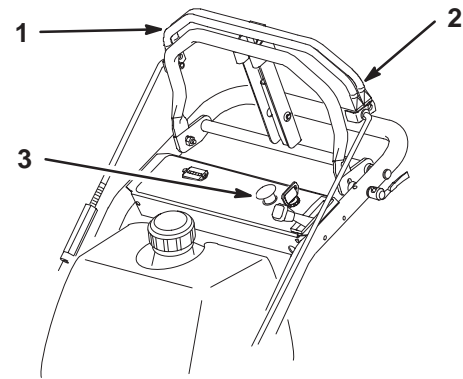

Figure 12
1. Release the upper control bar to stop the machine (Fig. 12).
2. To engage blade, squeeze blade control bail against upper control bar (Fig. 12).
1. Release blade control bail to disengage blades (Fig. 12).